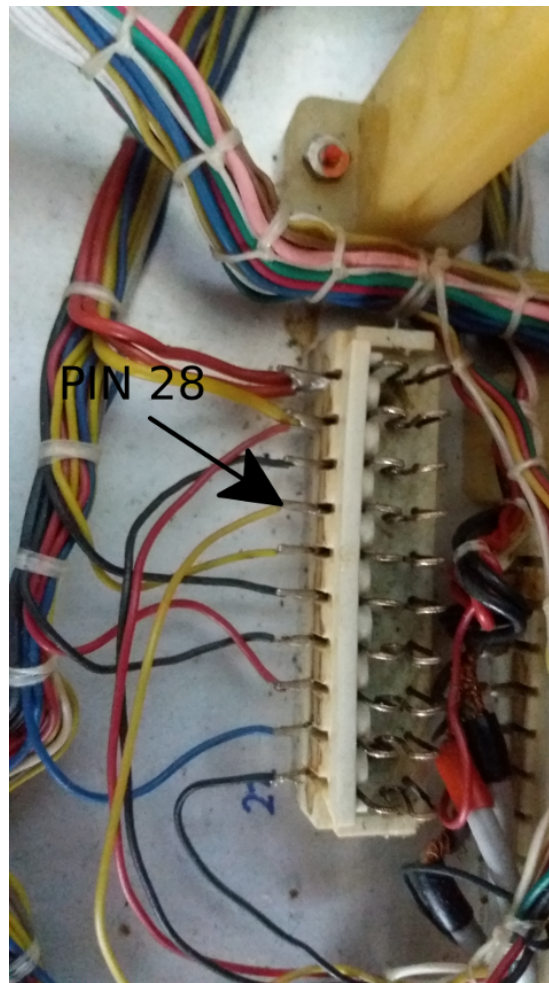

Figure 16: Location of pin 28 of socket PCB R12
4. Desolder wire from pin 28 of socket PCB R12. Location of the pin 28 shows figure 16.